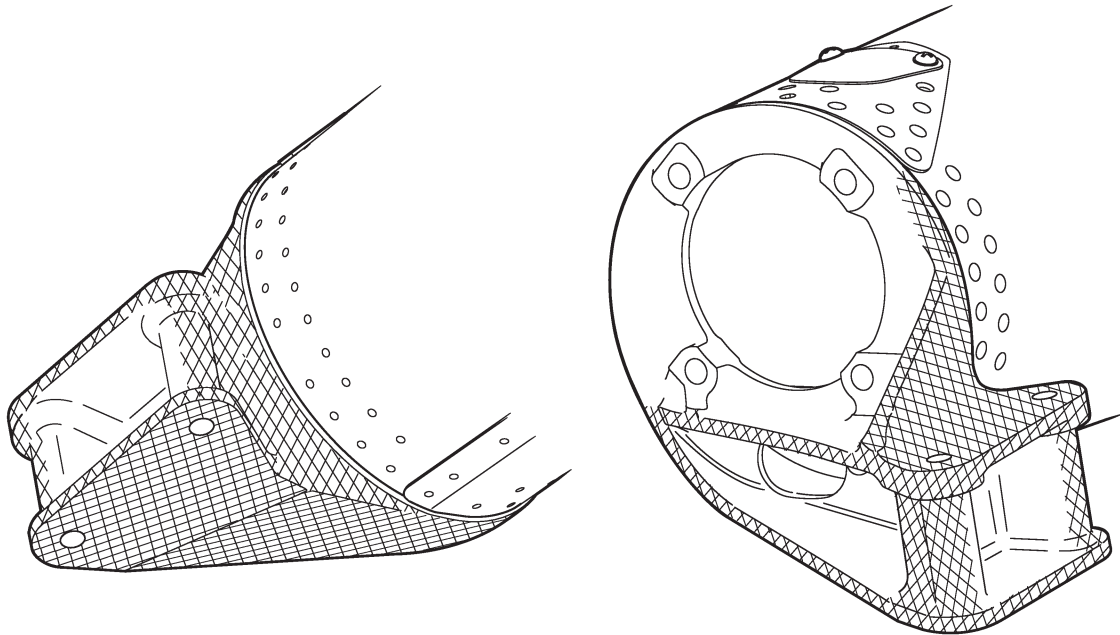

FIGURE 2-18 CROSS-HATCHED SURFACES OF TAILCONE'S AFT CASTING
1. On associated tailcone's aft casting, strip paint from cross-hatched surfaces shown in Figure 2-18.